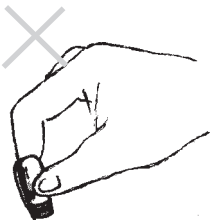

Fig. 10.3
- Never touch electric bulbs with bare fingers. Natural oil from the skin may burn and darken its surface causing premature decrease in light intensity. Use lens paper to hold the bulb when inserting it (Fig. 10.3).